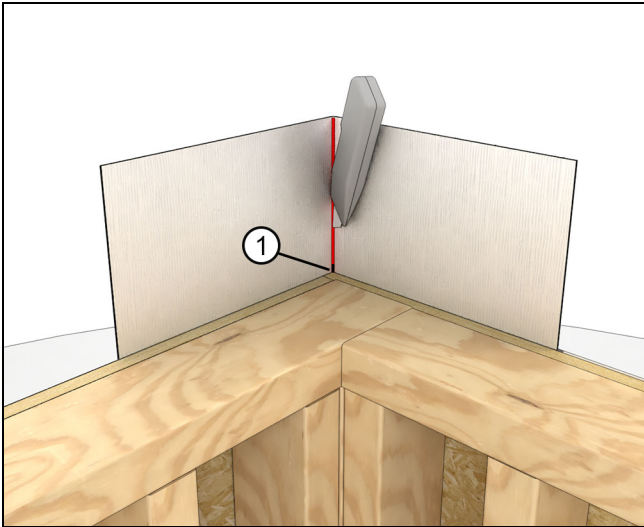

Figure 18
4. Cut the flashing at the crease in the corner. Stop about 1/4" from the sill. See Figure 18.